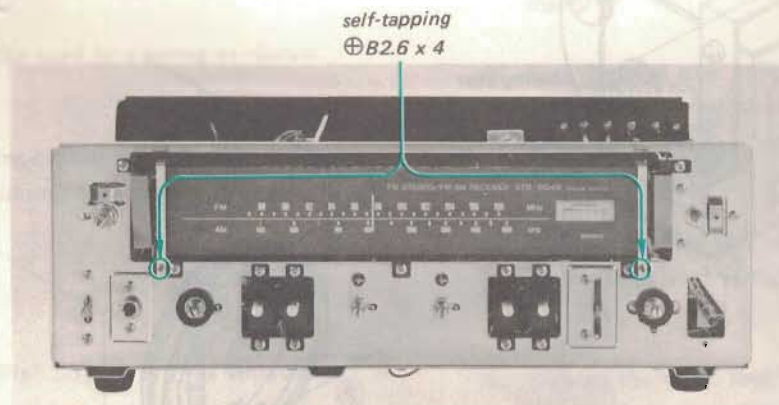

Fig. 2-11 Dial scale replacement
2. Remove the two self-tapping screws ( $\oplus B 2.6 \times 6$ ) securing the dial-scale holder to the front subchassis as shown in Fig. 2-11.